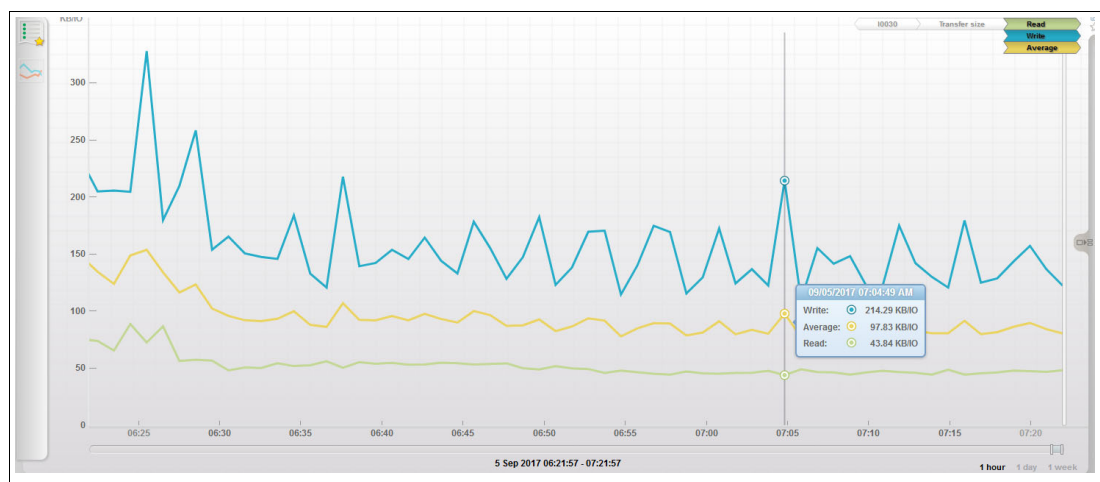

Figure 11-139 System performance graph
4. Draw the graph, which is shown in Figure 11-139.